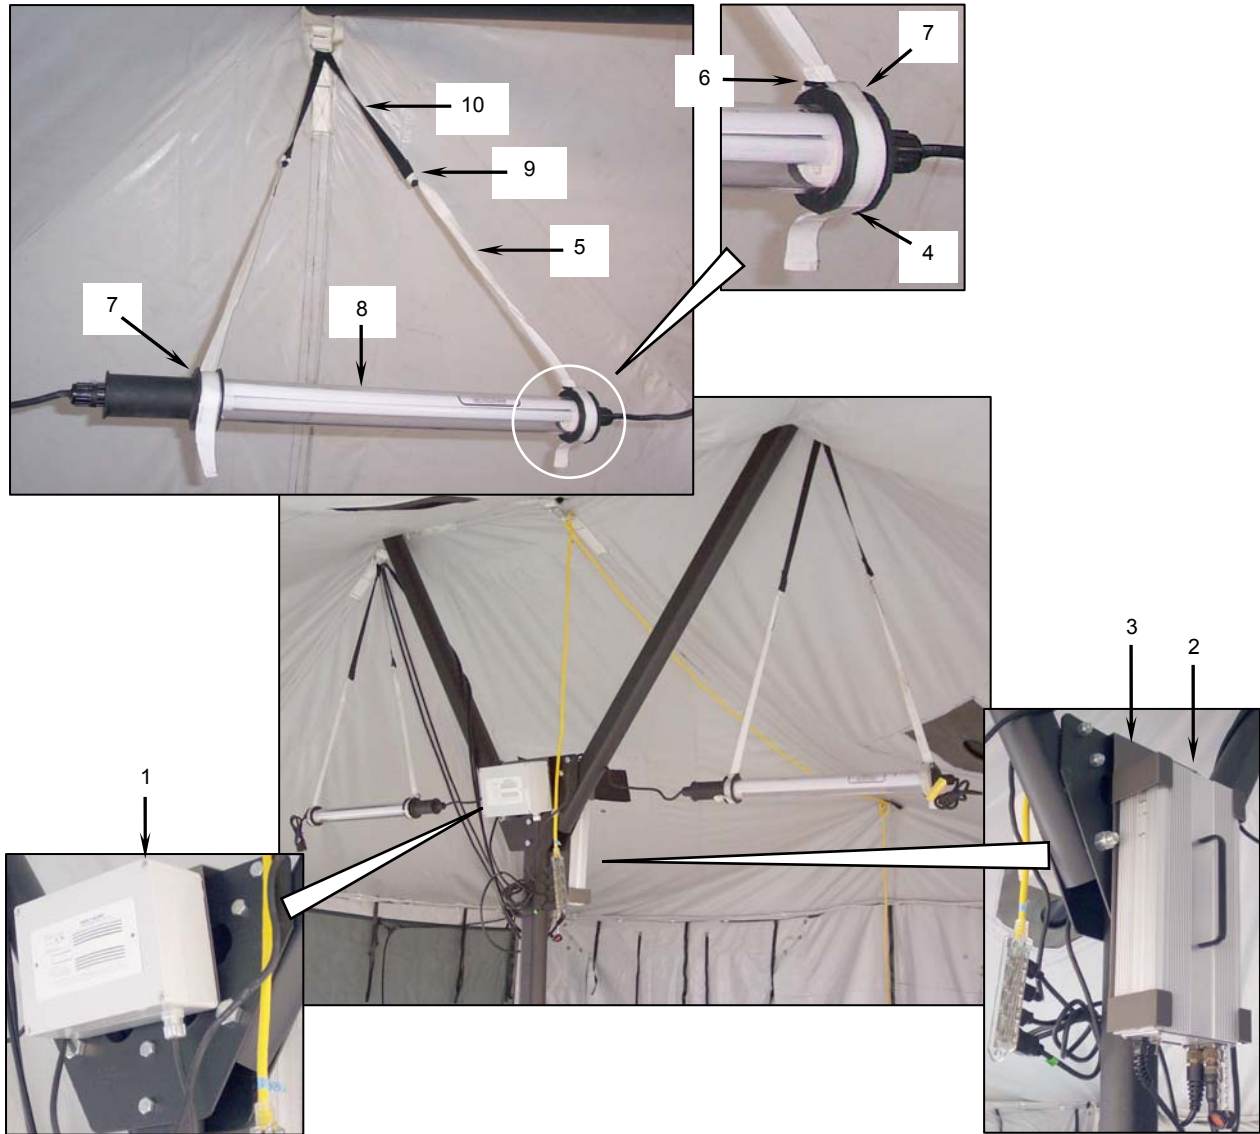

Figure 43. Removing the CO Monitor, Power Converter, and Electric Lights.
- a. Remove the carbon monoxide monitor (**Figure 43, Item 1**) from the tent pole.
- b. Remove the power converter (**Figure 43, Item 2**) and power converter bracket (**Figure 43, Item 3**) from the tent pole.
- c. Disconnect the light-hanging strap hook and loop fasteners (**Figure 43, Item 4**) and pull the straps (**Figure 43, Item 5**) out from their D-rings (**Figure 43, Item 6**), releasing the straps from the lip (**Figure 43, Item 7**) at both ends of the light assembly (**Figure 43, Item 8**).
- d. Release the knots (**Figure 43, Item 9**) that connect the light-hanging straps (**Figure 43, Item 5**) to the tent light hanger (**Figure 43, Item 10**) and disconnect the straps from the hanger.